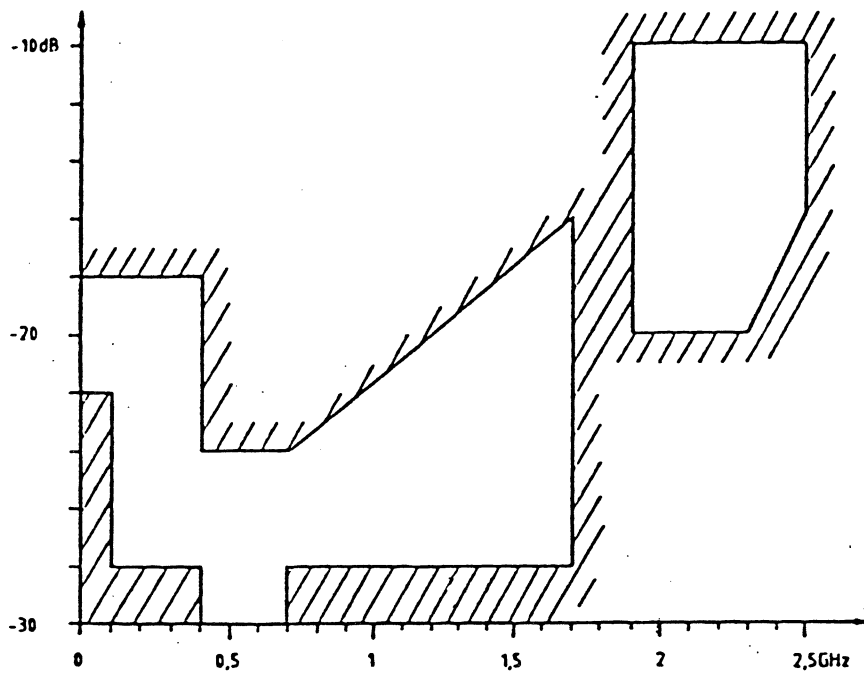

Fig. 5-2 Level tolerance chart: output coupling for synchronization with bandpass filter switched off
--> Connect detector to output X364; level as in Fig. 5-2.
--> Apply +15 V across 1.27 k $\Omega$  (at X364); level as in Fig. 5-2.
For measuring the harmonic content, use of a test setup according to Fig. 5-2 is recommended which, except for the attenuator pad d, is identical for the ranges 0.1 to 20 MHz and 0.4 to 2500 MHz.